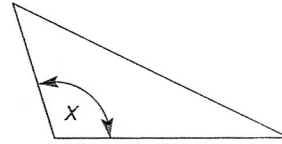

Figure 11
- c) If one of the angles in a triangle is greater than  $90^\circ$  (as  $x$  is in Figure 11) then it is an **obtuse-angled** triangle.